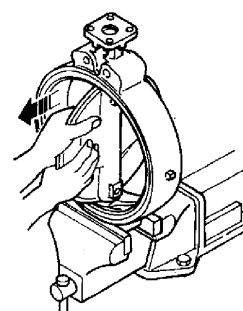

Fig. 35
- 5 The disc can now be pulled out of the body and the liner can now be pushed out of the valve body. (Fig.35)